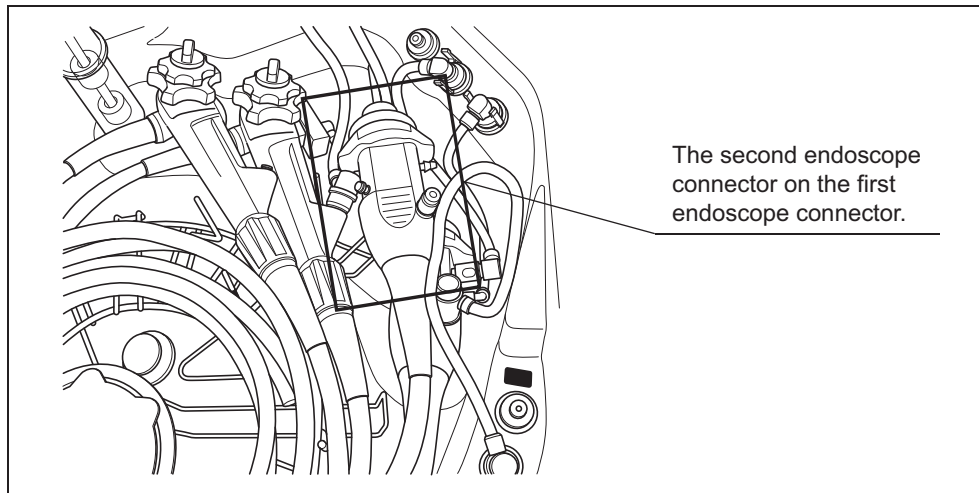

Figure 6.38
- 6 Gently place the second endoscope connector on the first endoscope connector as shown in Figure 6.38.